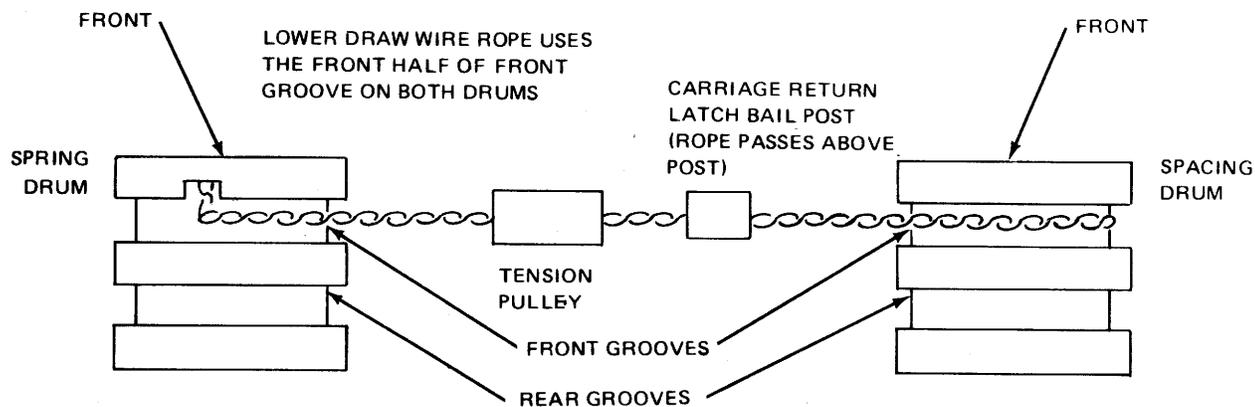

Figure 6-39. Lower Draw Wire Rope Route (Bottom View).
d. Install new wire rope by reversing procedure in steps 4 a. through 4 c. (see figure 6-39).